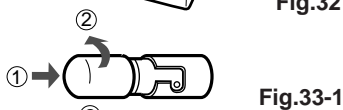

Fig.33-1
- 2 Remove the lamp from the socket by pushing in gently and turning counterclockwise. (Fig. 33-1)